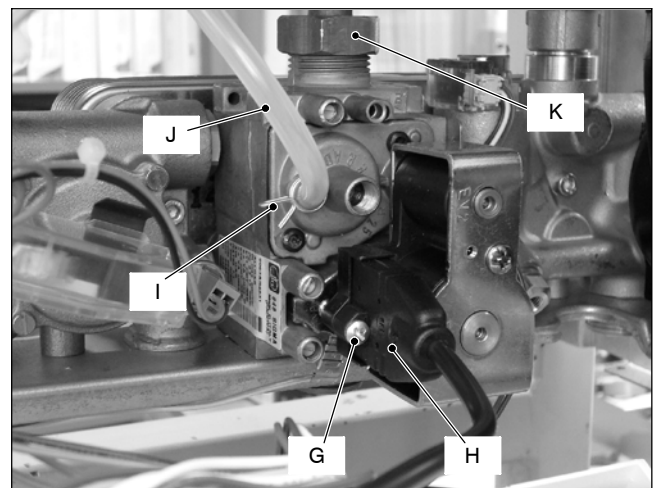
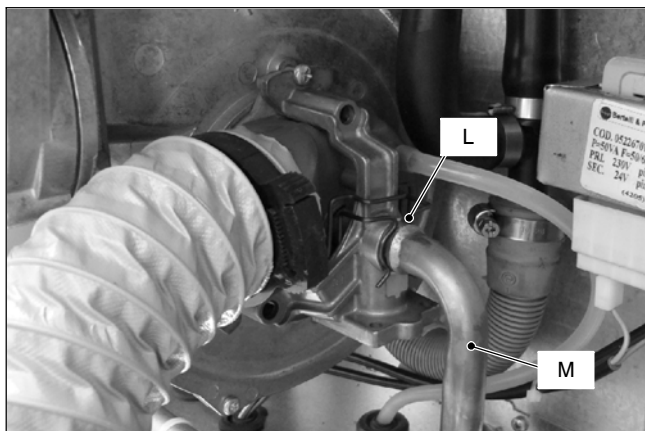

Fig. 11.9
Fig. 11.10
- 2 Remove the screw *G* and disconnect the connector *H* (Fig. 11.9).
- 5 Unscrew the connector *K* (Fig. 11.9), remove the fixing fork *L* and remove the pipe *M* (Fig. 11.10).